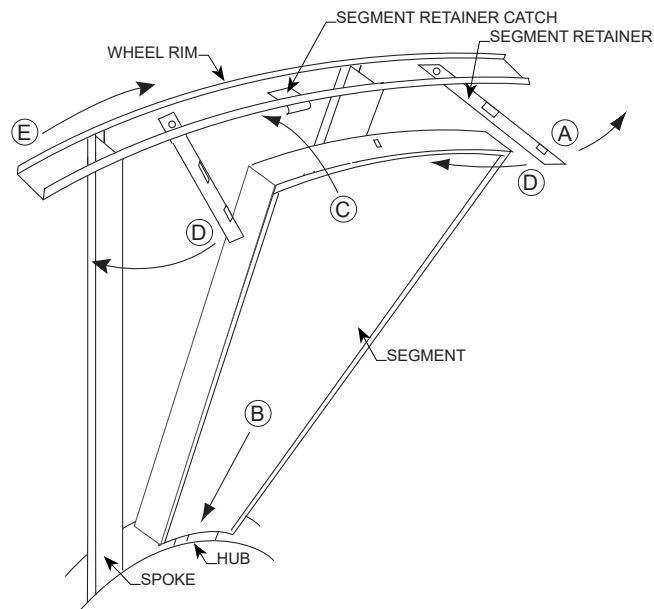

Figure 1
4. To install wheel segments follow steps A through E. **See Figure 1.** Reverse procedure for segment removal.